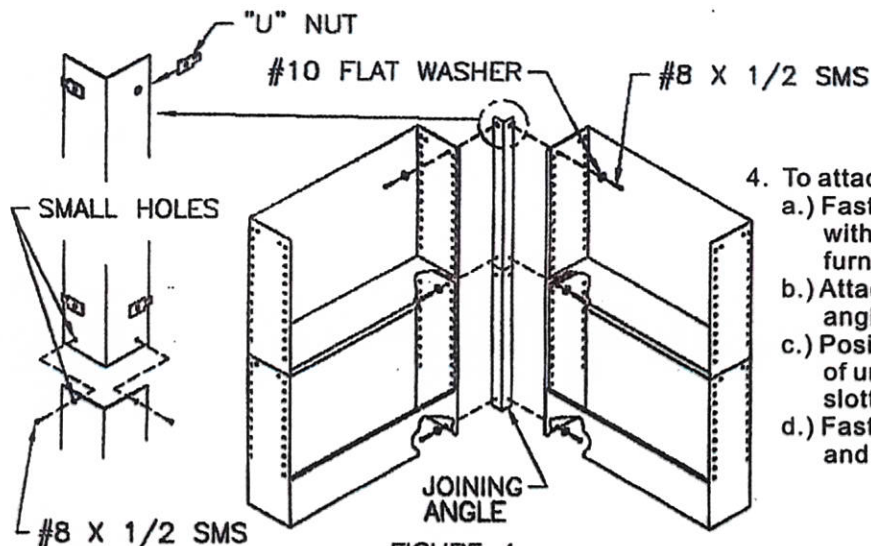

FIGURE 4
4. To attach adjacent units at right angles:(FIGURE 4)
- a.) Fasten 2 piece joining angle (Item 4) together with (2) #8×1/2 screws or pop rivets (not furnished) through small holes as shown.
- b.) Attach (6) "U" Nuts to large holes in joining angle as shown.
- d.) Fasten with (6) #8×1/2 sheet metal screws and #10 flat washer as shown.